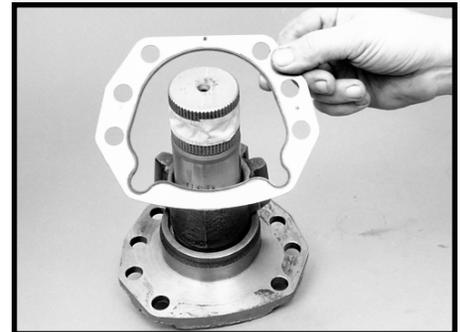

Figure 147
- 42. Apply clean grease to the new side cover gasket (55), and assemble it onto the side cover (56) There must be enough grease to hold the gasket in place. SEE FIGURE 147.